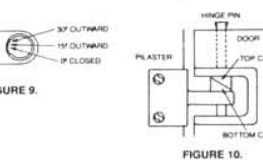

FIGURE 10.
- Connect the pilaster portions to the door portions of hinges by inserting the hinge pin through the top and bottom of the door until the pin is flush with the door edge. (see fig 10).